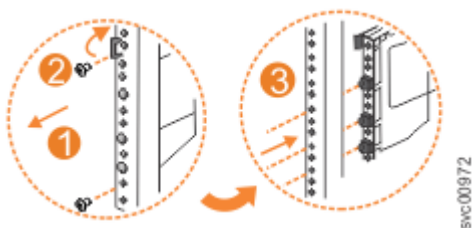

Figure 132. Remove the rail assembly from the front frame bracket
1. Remove the two screws that attach the outer rail section to the front bracket assembly, as shown in Figure 132 on page 170.
2. Remove the rail section by pulling it away from the front bracket, as shown in Figure 132 on page 170.